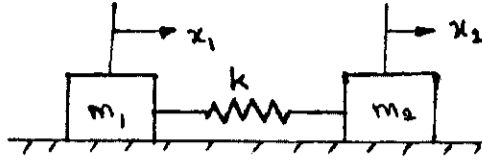

Fig.Q.6(b)
- b. For the system shown in Fig.Q.6(b) find the natural frequencies and amplitude ratios. Given  $m_1 = 10\text{kg}$ ,  $m_2 = 15\text{kg}$  and  $k = 320\text{ N/m}$ . (10 Marks)